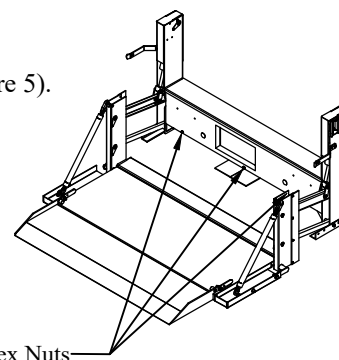

Figure 3: Assembled Liftgate
3. **Remove** the mainframe box cover by removing the three 5/16" hex nuts with a 1/2" wrench or socket (Figure 3).